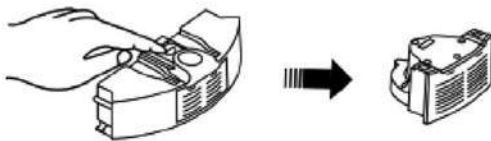

Figure 3
- 2) Press the red button on it, and then the blower will pop up automatically (Refer to Figure 3).